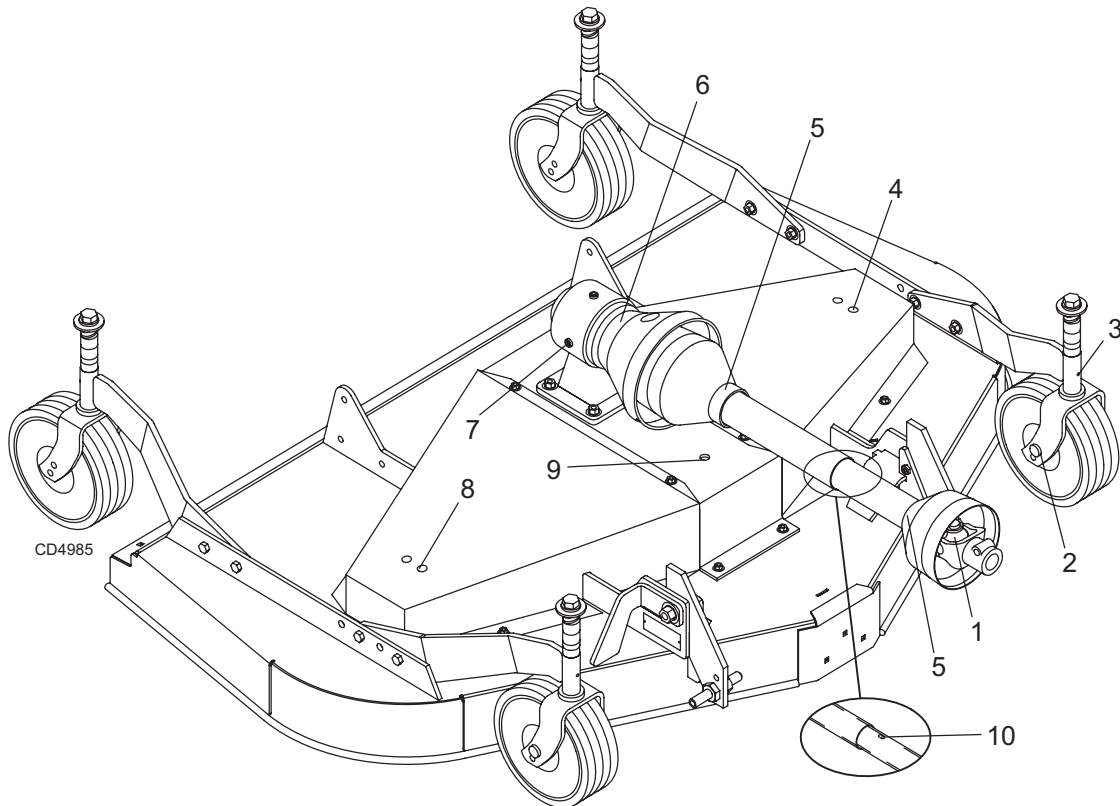

Figure 12. Lubrication Points & Chart
Figure 12 shows the lubrication points. The accompanying chart gives the frequency of lubrication in operating hours, based on normal operating conditions.
2. Apply grease at three locations as shown in Figure 12.